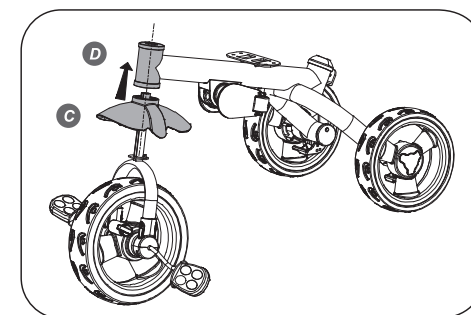

Fig. 2
2. Insert the Front Wheel Rod into the Front Wheel Fender **C** aligning the groove, then push into the Frame Opening **D** (See Fig. 2).